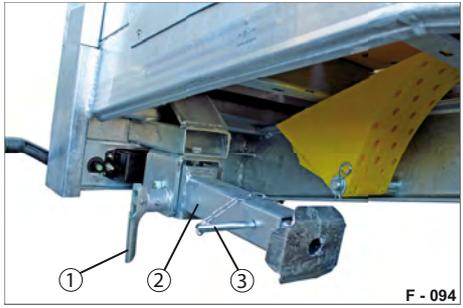

Fig. 63 Drive position
- ▶ Check before driving that both folding supports are in the drive position (see Fig. 63).